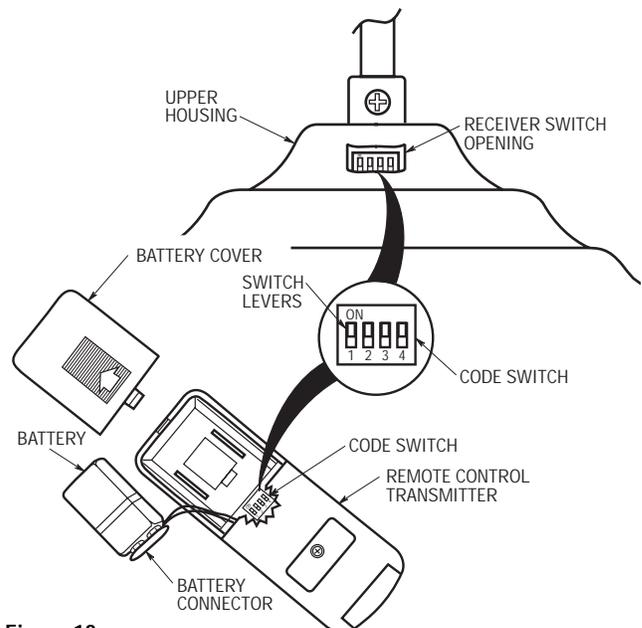

Figure 13
1. Remove battery cover and the battery from the transmitter. Locate the switch with four levers numbered 1, 2, 3, 4, just above the battery compartment (See Figure 13).
1. After electricity has been turned off at the main fuse box, locate the receiver switch opening located on top of the upper housing (Figure 13).
3. Engage the connector in the transmitter with the terminals of a 9-volt alkaline battery (not supplied) (Figure 13).